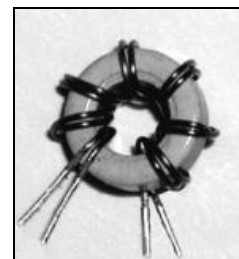
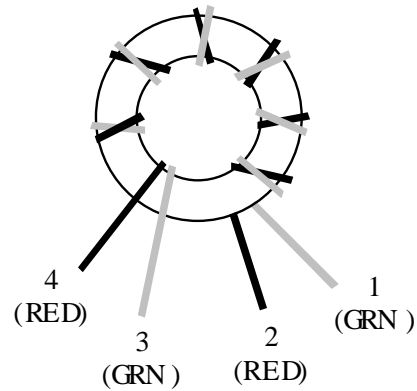

Figure 20
Figure 21
Wind 7 turns of the twisted wires onto the small ferrite core (FT37-61). The turns should be spaced to cover about 80-90% of the core, as shown in Figure 20 and Figure 21. **Note:** To make the turns spacing easy to see, the wires shown in Figure 20 were not twisted together.
Separate T3's leads as shown in Figure 21. The numbers on the leads correspond to numbered pads on T3's PC board outline.
- Strip and tin the leads of T3. (Figure 20 shows the leads tinned.) Keep the red and green leads spaced slightly apart during stripping and tinning.
- Install T3 vertically on the PC board as indicated by its outline (near the microcontroller, U1). Insert the red and green leads into their numbered holes as shown in Figure 21. Pull the leads taut on the bottom, then solder.